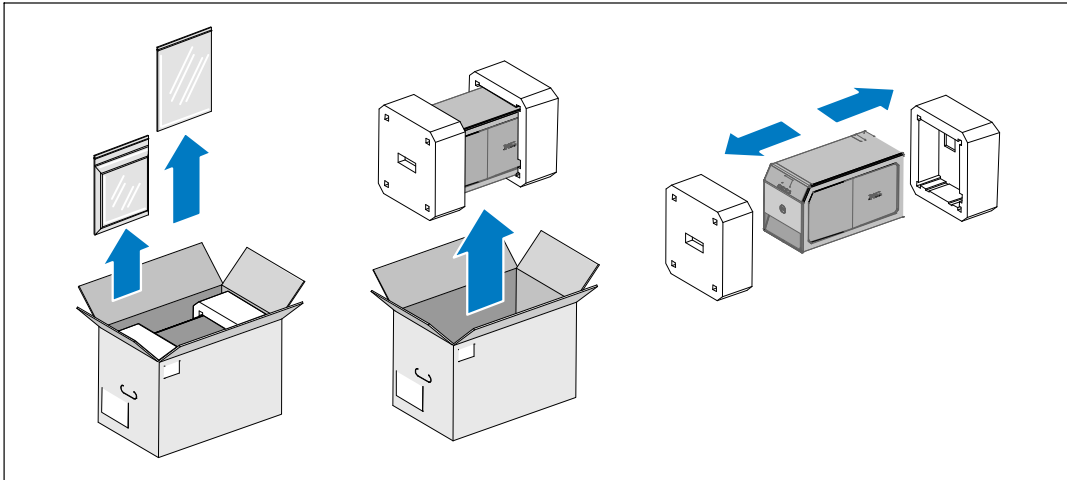

Figure 2. Unpacking the System
- 1 Unpack your system and identify each item (see Figure 2).